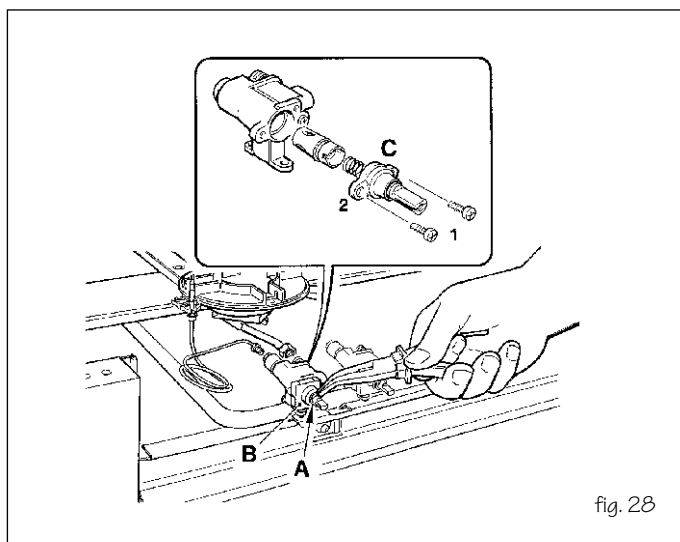

fig. 28
- unscrew the control panel screws and remove it (Fig. 28)
- remove the ignition switch "B" (Fig. 28) if fitted after removing clip "A"
- unscrew the two cap mounting screws (A - Fig. 28)